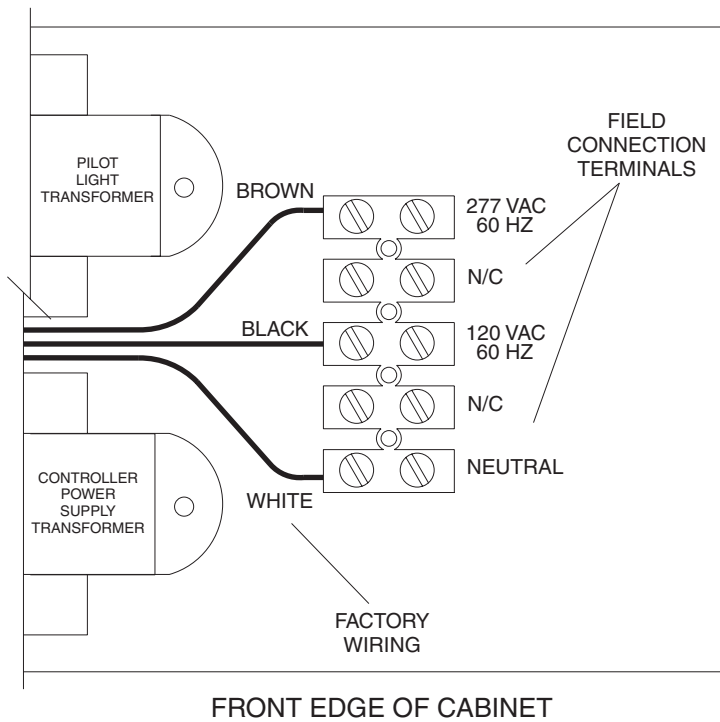

Figure 3 - Power Supply Connections
2. Connect a dedicated 15 or 20 amp branch circuit to the power supply input. The power supply input can be connected to either 120 or 277 VAC, 60 Hertz. The power supply terminal block label shows the connection positions for each voltage, see *Figure 3* for details.